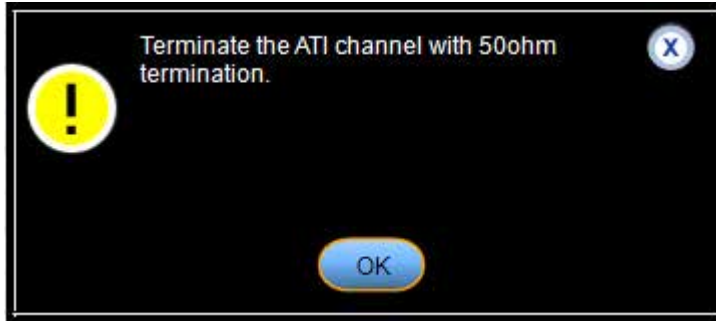

Figure 26: Pop-up for 50 Ohm termination for channel
15. If any ATI channels are selected, a pop-up will appear, as shown in Figure 26 on page 28. Ensure 50 Ω termination to the channel and click **OK**.